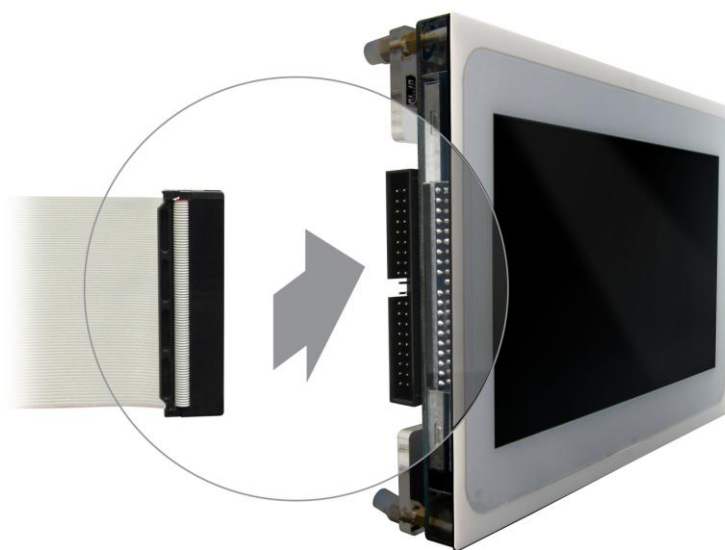

Figure 1-4 MTL connection for the IDE cable
1. Connect the IDE cable to the IDE connector on the back of the MTL as shown in the Figure 1-4.